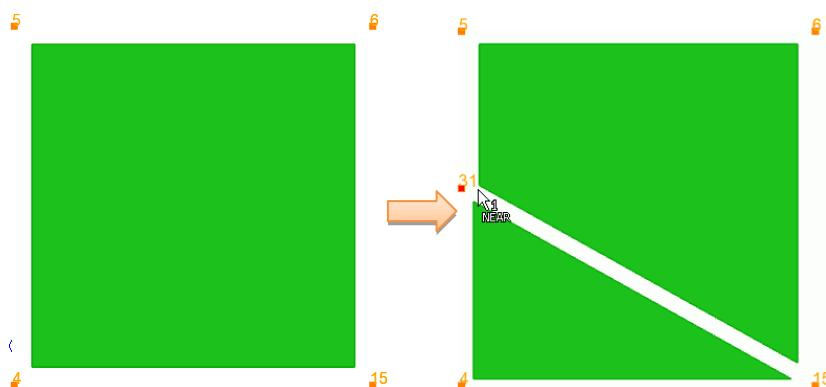

Figure 7-12 SplitEdge(4, 5, P1) introduces a new node 31 and new triangle.
- 1) A new triangle will be introduced as in Figure 7-12.
For element edges lying outside of concept edges, snapping to middle of element edge is turned on. This allows for easy splitting of quad elements in half as shown in Figure 7-12 and Figure 7-13.